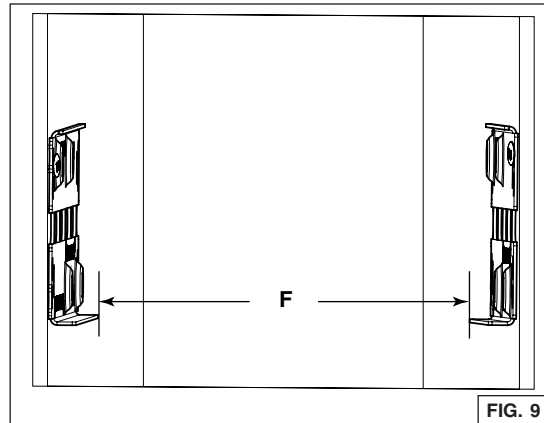

FIG. 9
7. Measure the distance between both bottom bracket edges (**F**) (FIG. 9). The table below shows the appropriate distance needed.